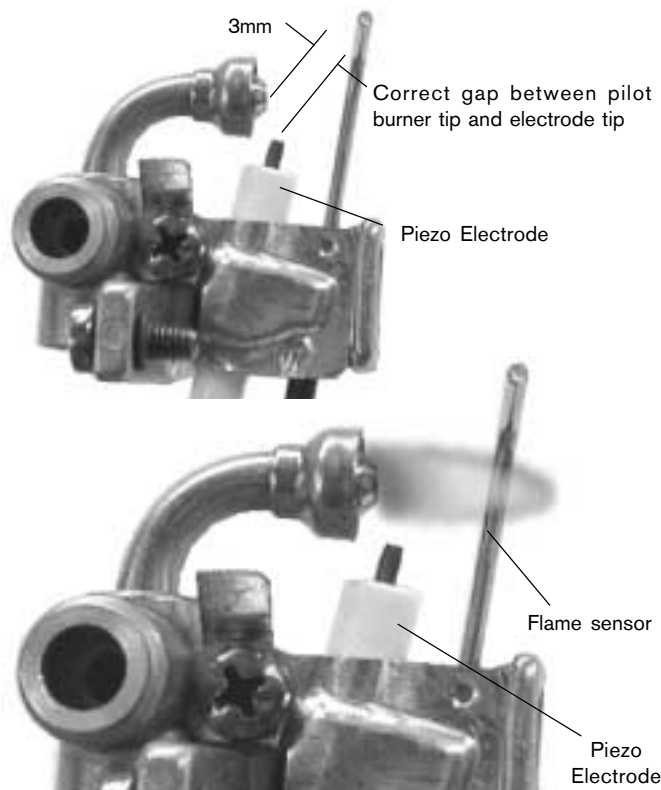

Fig. 12 - Characteristic Pilot Flame
**Pilot Flame:** The pilot flame should burn with a clean, sharp, blue flame and should resemble the diagram in Fig. 12. If the flame is soft and yellow, the pilot burner orifice may need to be cleaned or serviced. The pilot flame should be approximately 2 inches long, extending past the flame sensor. If the flame is too small, it will not reach the flame sensor and the burners will not come on.
**1. Confirm the flame sensor is in its proper position.** see Figure 12.